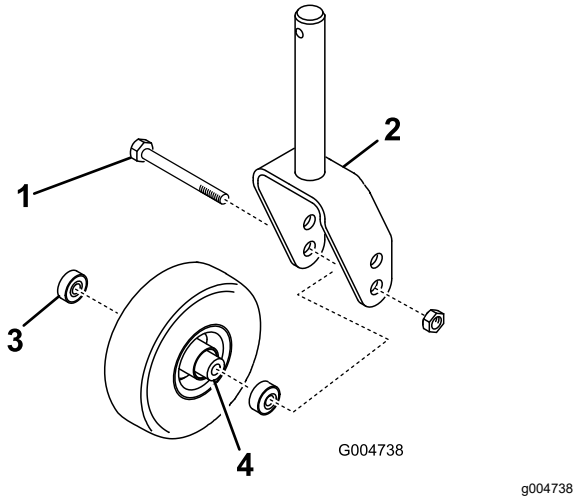

Figure 26
1. Remove the locknut from the bolt holding the caster wheel assembly between the caster fork (Figure 26).
3. Remove the bearing from the wheel hub and allow the bearing spacer to fall out (Figure 26).